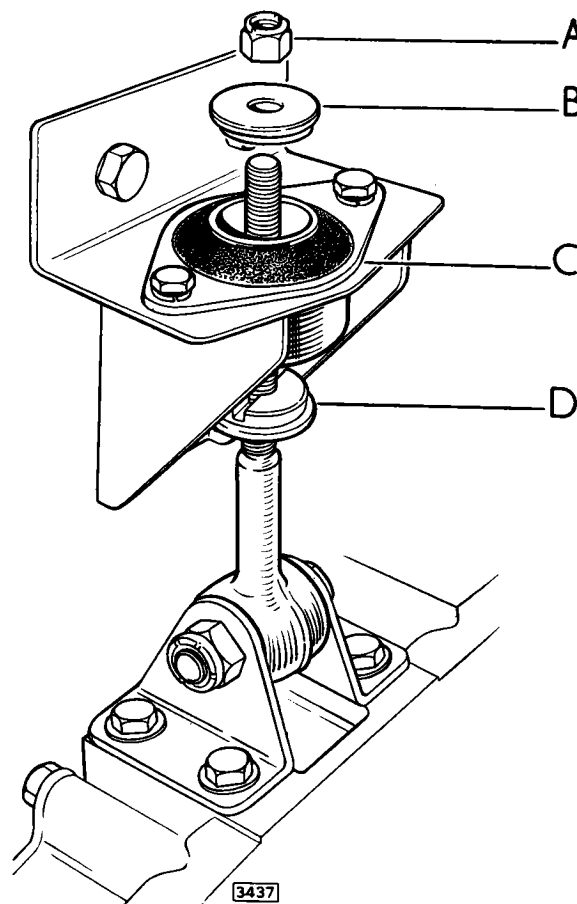

Fig. 70. The engine stabiliser.
- (a) Screw the lower flanged washer (D. Fig. 70) up the stabiliser pin until the flange contacts the bottom of the stabiliser rubber mounting (C). The washer is slotted on its upper face and can be screwed up the pin by engaging a thin bladed screwdriver in the slot through the centre hole of the rubber mounting.
- (b) Fit the upper flanged washer (B) and tighten down with the self-locking nut (A).